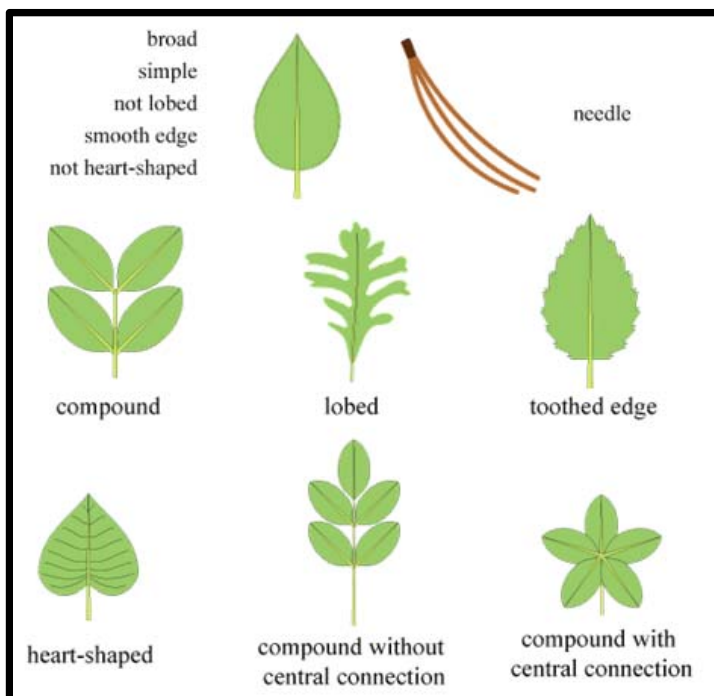

Figure 8. Terminology used to describe leaves
- Use Figure 8 and the dichotomous key on the following page to find the common and scientific name of the tree from which each came.